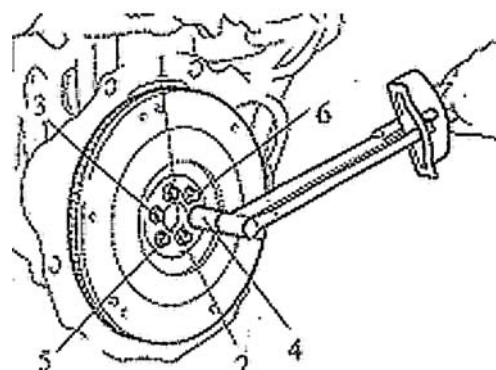

Figure 34
59. Install flywheel sub-assembly. See (Figure 34)